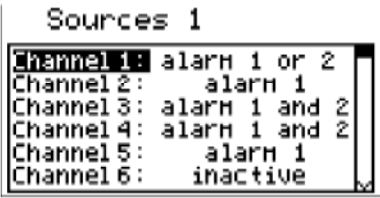

Fig. 7.16. Submenu **"Source"** in menu **"Outputs settings"**.
- brings up a submenu with alarm sources settings (Fig. 7.16). The following options are available for each channel: